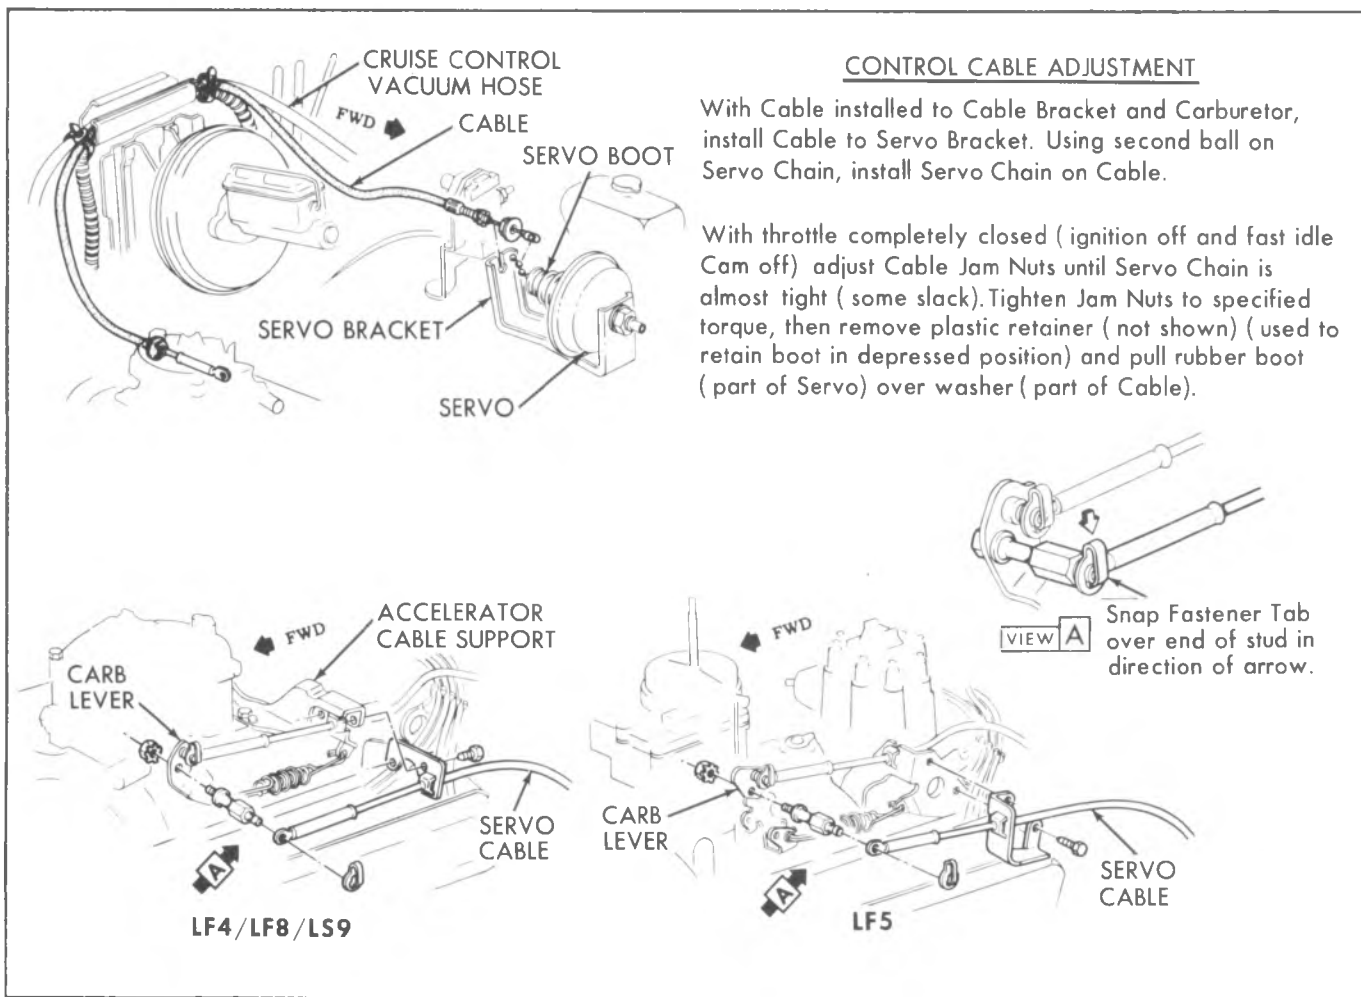

Fig. 9-7C--Servo Composite (C-K Trucks)
SERVO UNIT (FIG. 9-7C)
Before adjusting the Servo Cable, make sure the carburetor is set at its lowest idle throttle position by manually setting the fast idle cam at its lowest step with the ignition switch "OFF". Adjust the cable so there is as little lost motion at the Servo as possible (Fig. 9-7C).
6. Adjust the servo cable as outlined in Figure 9-7C.